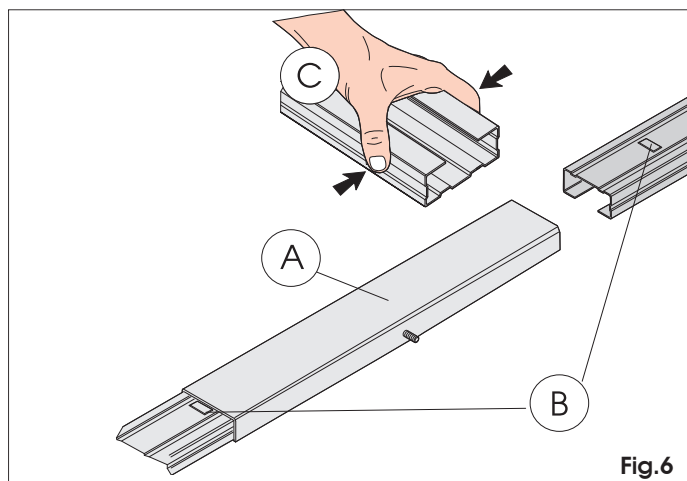

Fig. 6
- 1) Assemble the two pieces of the sliding guide, fitting them in the central joint (Fig. 6 ref. A) until they come to a stop against the metal reference reliefs (Fig. 6 ref. B). To facilitate engaging the sliding guide, we advise you to insert it in the central joint, compressing it as shown in Fig. 6 ref. C. Do not use tools which could deform the guide or joint.